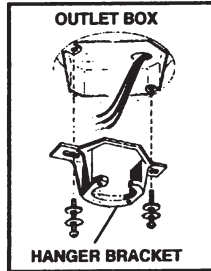

FIG. 5
Step 1. Secure the hanger bracket to the ceiling outlet box using screws provided with the outlet box and lock washers and flat washers included with the fan. (Fig. 5)